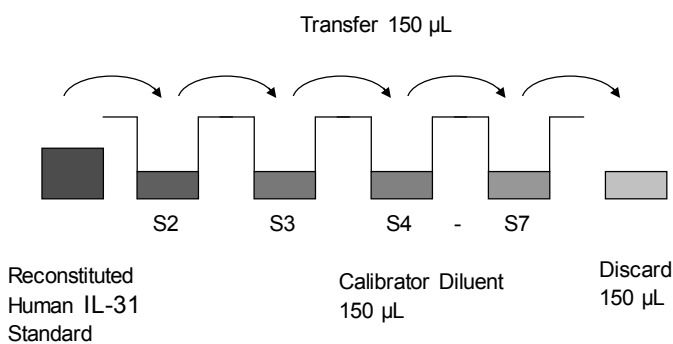

Fig. 7 Dilute standards - tubes
- Repeat serial dilutions 4 more times thus creating the points of the standard curve (see Figure 7).